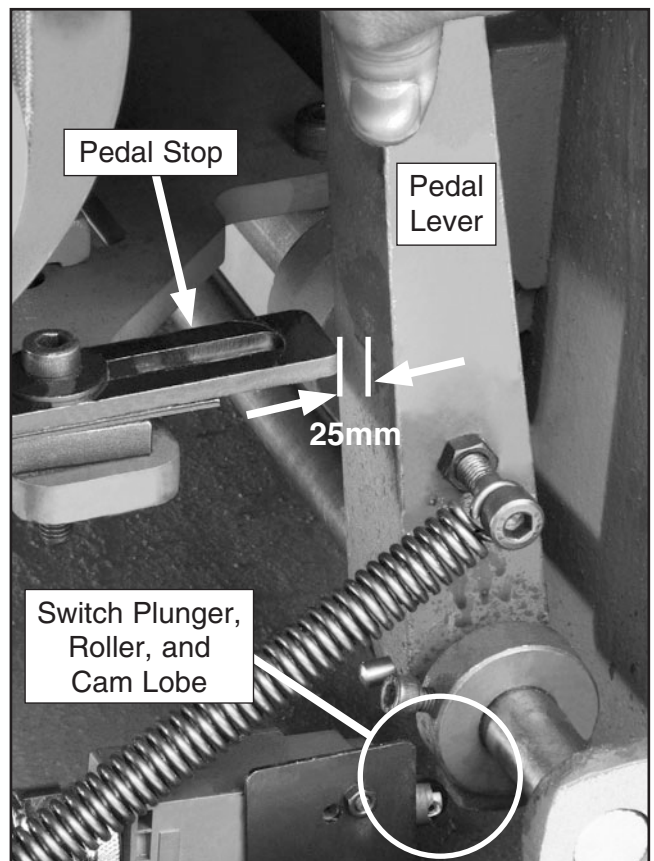

Figure 124. Pedal travel adjustment.
7. Firmly push the pedal lever to the right (**Figure 124**) until it stops and the brake band is fully clamped around the brake hub.
8. Tap the pedal stop into position so there is approximately a 25mm gap between the pedal lever and the stop (**Figure 124**).
10. Push the pedal lever to the right again to the end of its stroke, and verify that the cam lobe pushes the limit switch plunger (**Figure 124**) in so you can hear the switch click.